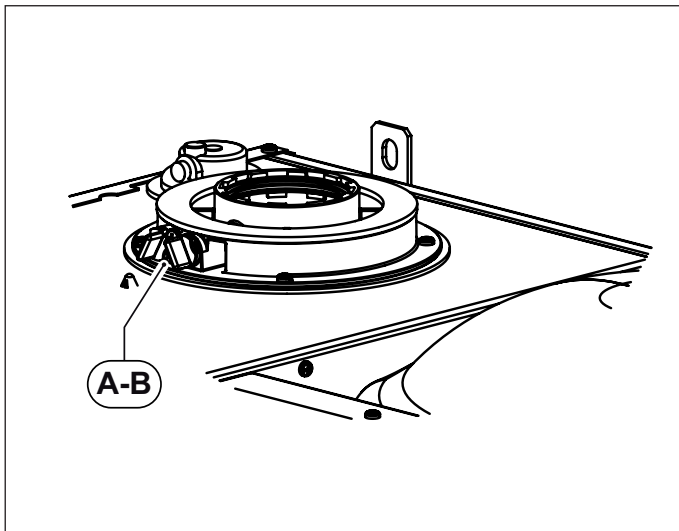
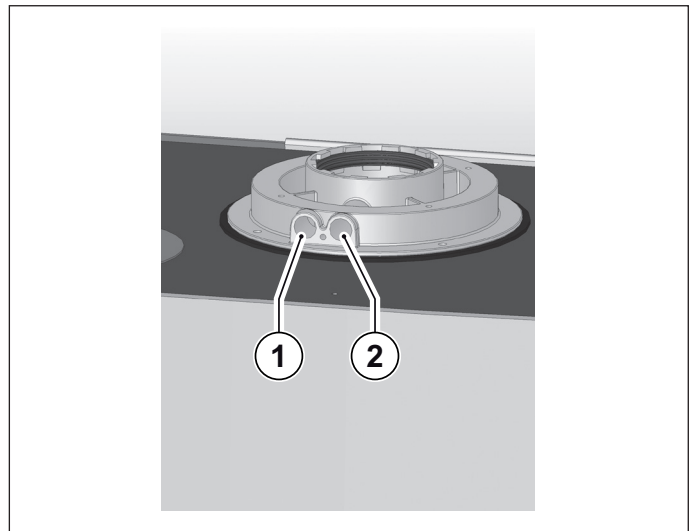

Fig. 13 Plugs position
Fig. 14 Hole position
The boiler is equipped with a tower allowing for air intake/flue gas venting pipe connection (see Fig. 13 Plugs position and Fig. 14 Hole position).
The tower is designed with two pre-arranged openings directly accessing air and flue gas ducts (see Fig. 14 Hole position).
Remove caps **A** and **B** from the pre-arranged openings on the tower, before starting combustion checking procedure (see. Fig. 13 Plugs position).
- assess combustion air from opening **1** (see Fig. 14 Hole position).
- assess flue gas temperature and CO₂ from opening **2** (see Fig. 14 Hole position).